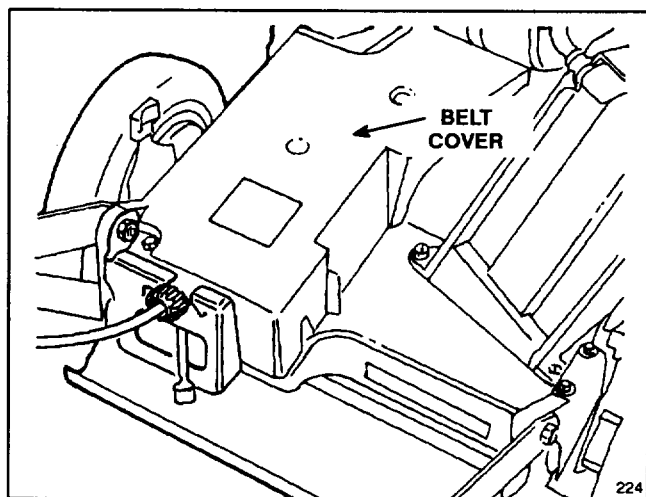

Figure 32
7. After every 25 operating hours at minimum, the area under the belt cover should be cleaned. Remove bolts securing belt cover (Fig. 32) to mower housing. Lift off cover and brush out all debris from belt area. Reinstall belt cover.